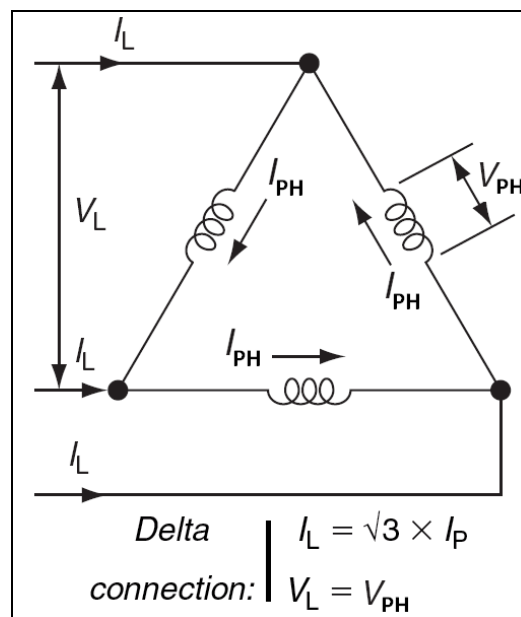

Fig. 2.4-9. Delta Connection
- Delta connection **Δ** (Fig. 2.4-9)